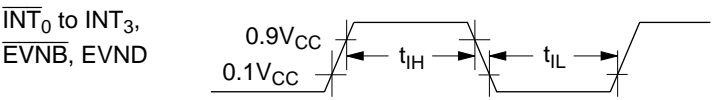

Figure 95 Interrupt Timing
5. Refer to figure 95. The t_{oyc} unit applies when the MCU is in standby or active mode. The t_{subcyc} unit applies when the MCU is in watch or subactive mode.